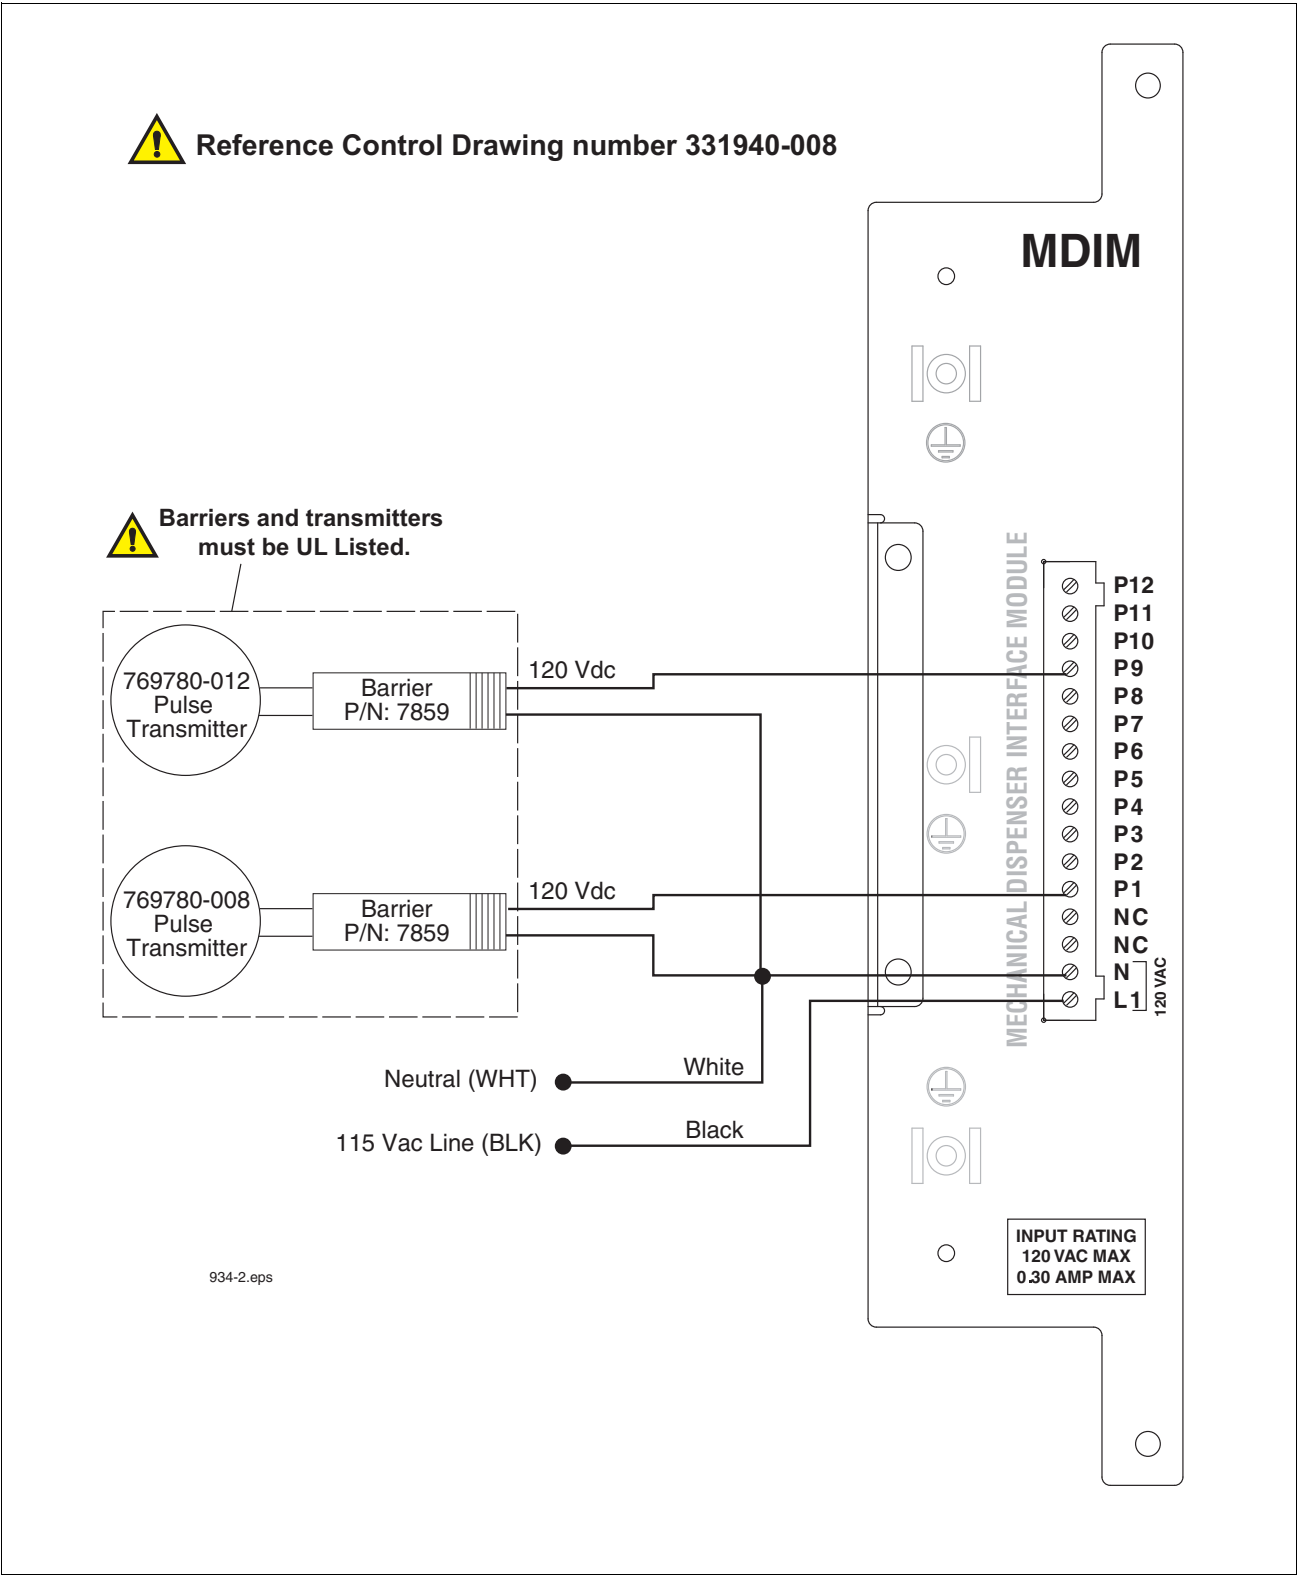

Figure 40. Connecting devices to the MDIM module
- Figure 40 - MDIM module wiring connections